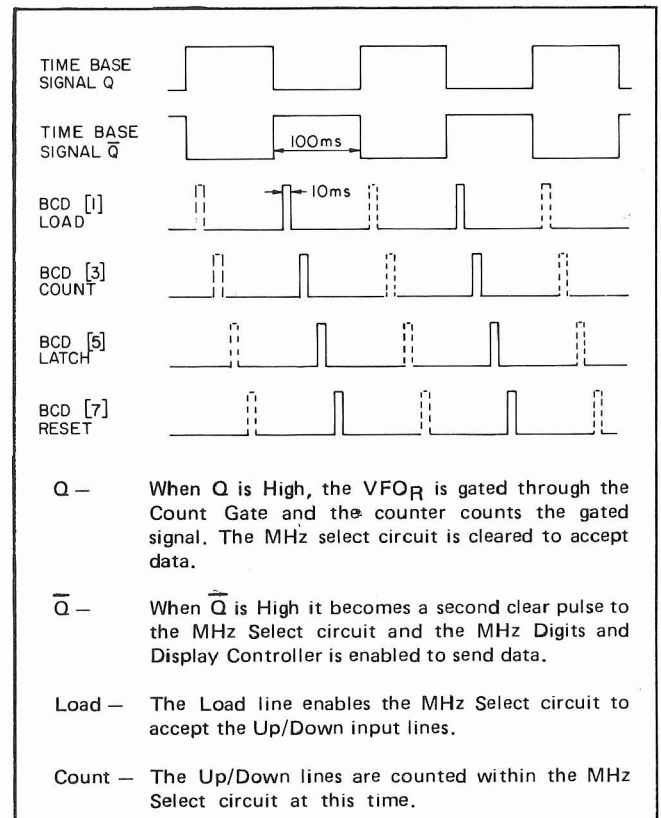

Figure 4-12. Timing Sequence.
4-178. The timing of the Up/Down Counter, latches, and reset is controlled by the BCD-to-Ten Decoder U28. All of these functions take place when U22A is not on (refer to timing diagram, Figure 4-12). When  $\bar{Q}$  is high, U22A will be on, Q will be low to inhibit NAND gates U22B, U30A, U30B, and U30C. When the BCD information from U27 (input to U28) is a BCD 1 (H) and Q is high, the output of U22B is low and frequency range information is loaded into the Up/Down counter U23. When the output of U27 is a BCD 3, the output of U29C is high, enabling the Up/Down code to be applied to U23. When the BCD code from U27 is a 7, U31A output is high to provide a reset for the counters. When the output of U27 is a BCD 5, the output of U31A is high, providing a latch for the counters.